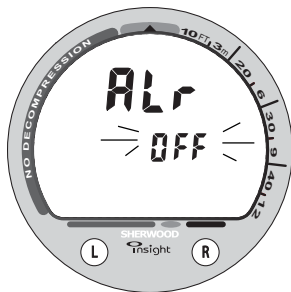

Fig. 20 - Set Alarm
- the graphic ALR appears with ON, or OFF, flashing (Fig. 20)